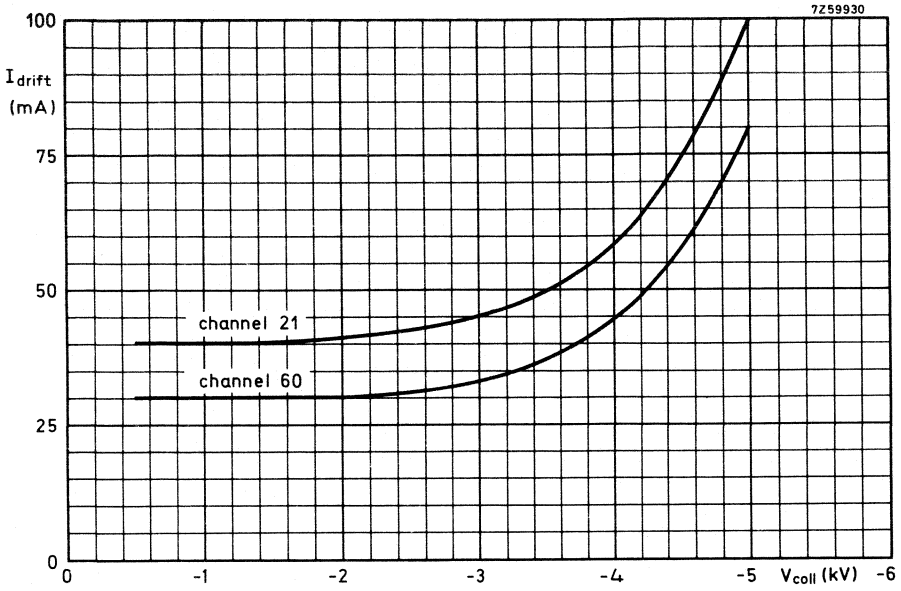

Fig. 8.
\* The limiting values for various operating conditions are given in Fig. 8.
11. At black level, to be focused for minimum drift tube current. If necessary to obtain the required signal-transfer quality, a deviation of maximum 10% from this minimum current is permitted. The limiting value, see Fig. 8, may however, not be exceeded.